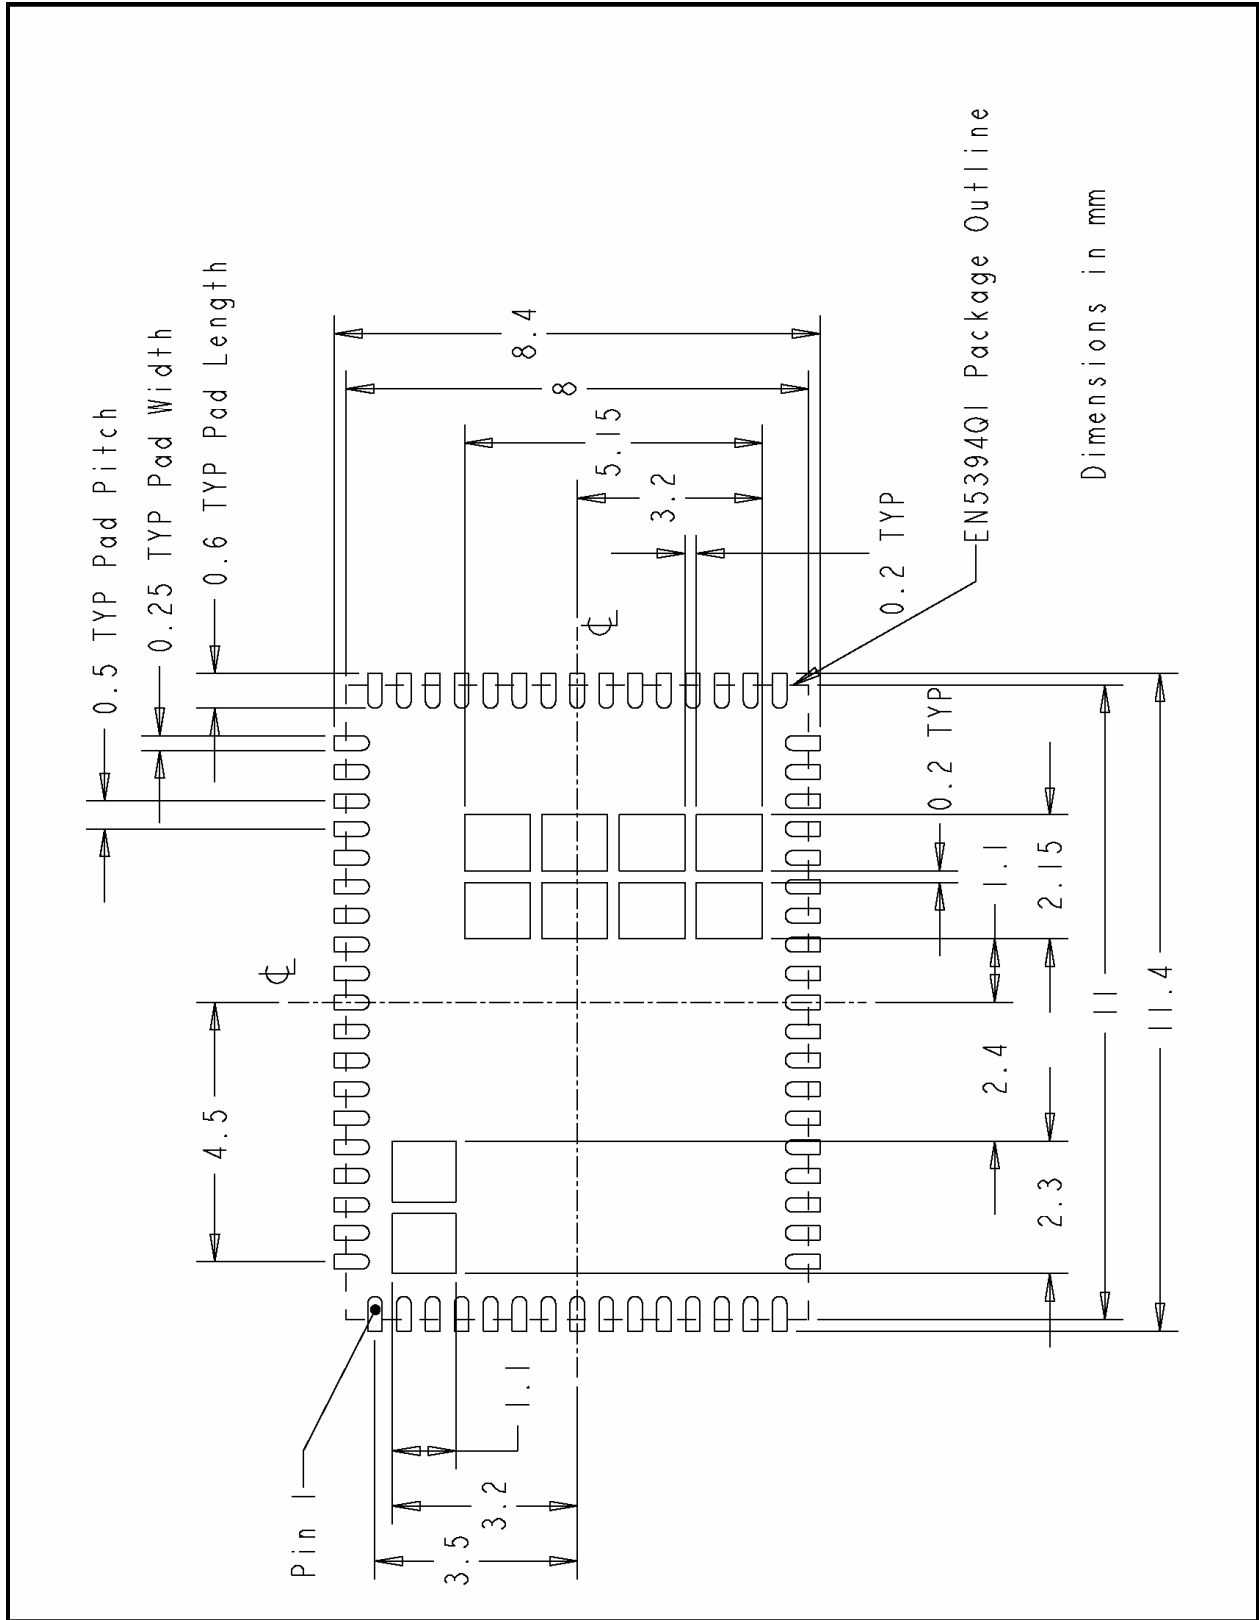

Figure 5 Solder stencil aperture layout for the EN5394QI QFN package
Figure 5 shows the solder stencil aperture layout for the EN5394QI QFN package.
- If open through-hole plated vias are used in the PCB GND pad then the stencil aperture opening should have a size ratio of 0.95:1. Note: the quantity and diameter of the vias will determine the amount of solder that will flow into the vias during reflow reducing the solder volume between the EN5394QI GND pad and the PCB GND pad. The solder stencil aperture layout should use one large aperture opening for the GND pad with dimensions as shown in Figure 5.
- If plugged and capped through-hole vias are used in the PCB GND pad then the stencil aperture opening should have a size ratio near 0.50:1. Note: less solder paste will be required since the vias will not fill with solder during reflow. The solder stencil aperture layout should use ten small aperture openings (known as a window pane solder stencil aperture) for the GND pad with dimensions as shown in Figure 5.